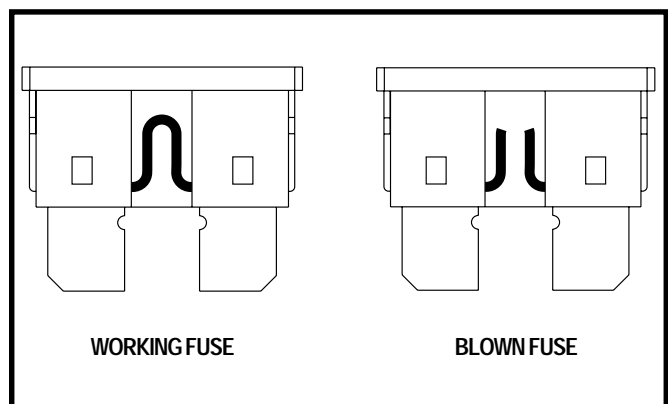

Figure 23. Fuse Replacement
- Check the fuse located on the red power wire near the battery. If blown, replace with a new 25-amp fuse. **See figure 23.**